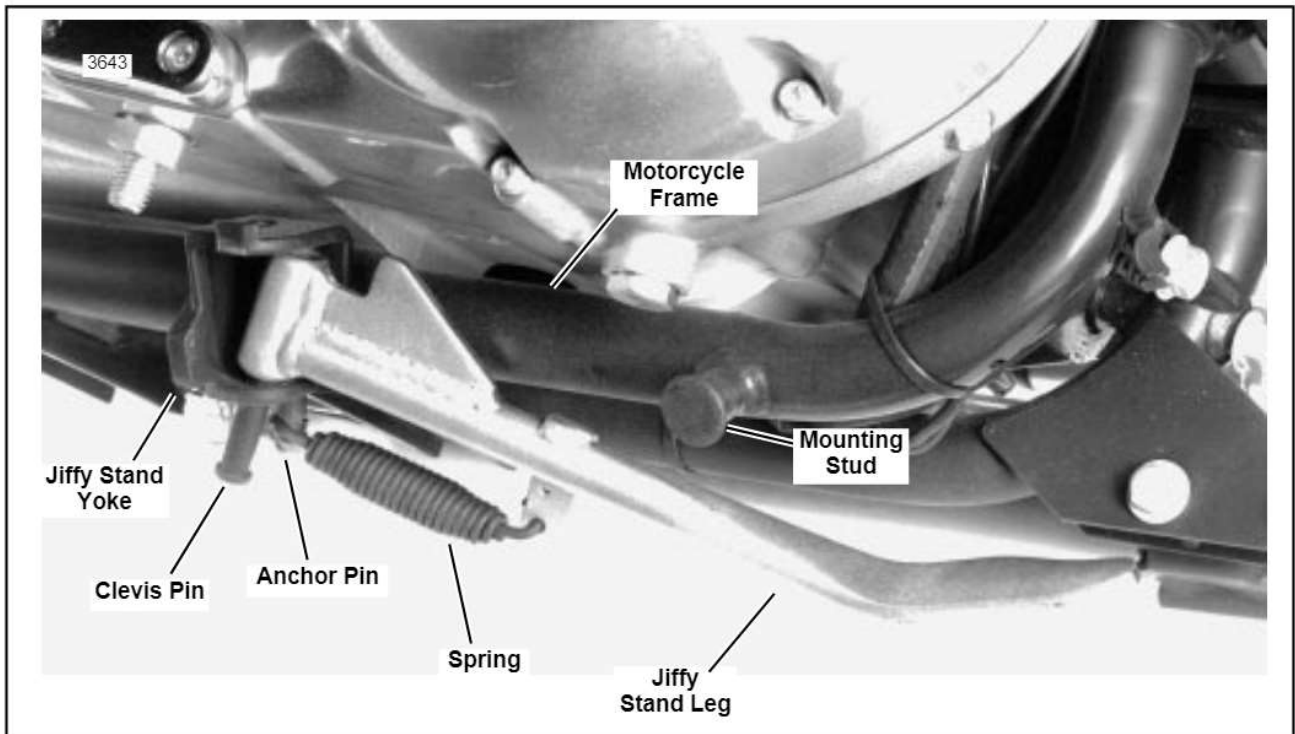

Figure 3. Jiffy Stand (Partially Installed)
4. See Figure 3. While firmly holding jiffy stand leg in fully retracted position, withdraw clevis pin until it disengages from the upper pivot hole of jiffy stand yoke.
2. See Figure 3. Hook either end of spring into spring mounting hole on jiffy stand leg. Install loose end of spring over anchor pin.